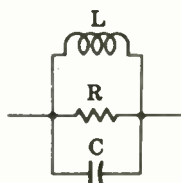

**Fig. 39.**
*Capacitance and inductance in parallel (Fig. 39)*